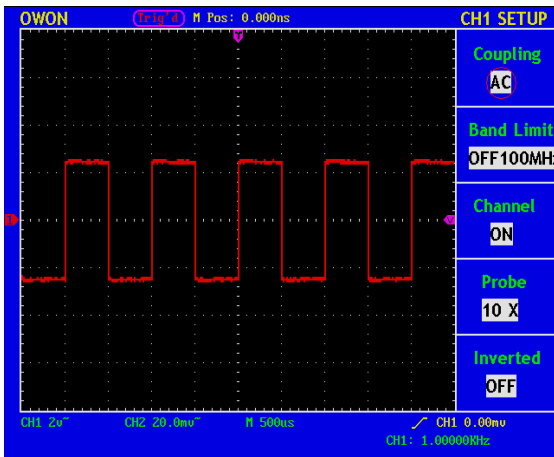

Fig. 21 AC Coupling Oscilloscope
- Press **F1** next to Coupling and select "AC", now DC component is blocked from input signal. See Fig.21.